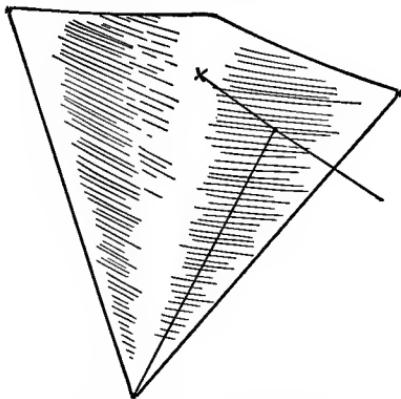

FIG. 475.—The Malay Kite.
makes an excellent covering. Lap the edges of the paper, and paste in the same manner that you would put on the covering of any kite; but, instead of stretching it tight, allow it to have a little fullness. You will notice by Fig. 475 that the paper goes upon the outer face of the bow-stick.
**Attach the Bridle** at the intersection of the sticks, and at the lower end of the vertical stick, as shown in Fig. 475, and make it of the proper length so when held to one side it will reach to the point *A* (Fig. 476).